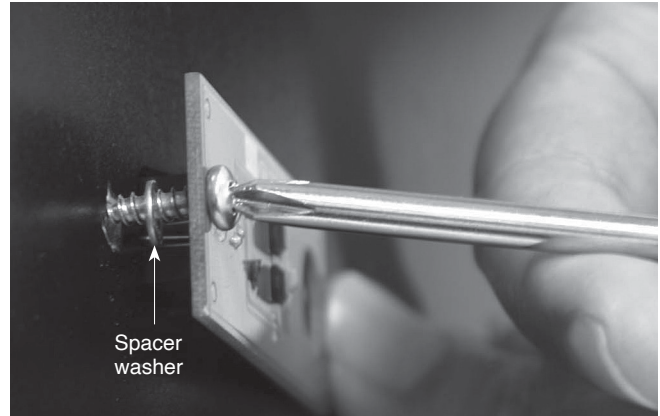
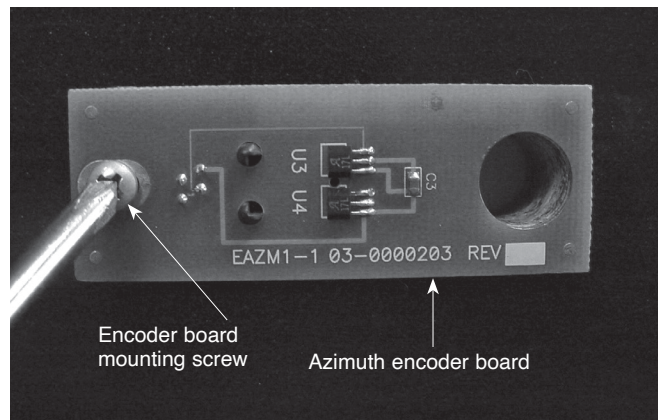

Figure 3a. The spacer washer goes between the azimuth encoder board and the top baseplate of the Dobsonian base.
Figure 3b. Installing the azimuth encoder board. Line up the large hole in the encoder board with the central hole in the top baseplate.
3. Connect the two side panels (C) with the front brace attached to the top baseplate (D) with the remaining six base assembly screws in the predrilled holes. The side of the baseplate with the pilot hole near the square-shaped cutout should be facing downwards. Tighten all six screws firmly.
5. Attach the azimuth encoder board (E) to the underside of the top baseplate (D). Insert the encoder board mounting screw through the circuit board and install the small spacer washer (G) over the screw (**Figure 3a**). Insert the modular jack on the encoder board into the square-shaped hole in the baseplate and align the encoder board so that the small slotted hole in the board lines up with the predrilled starter hole, and the large hole lines up with the central hole in the baseplate. Thread the encoder board mounting screw into the predrilled starter hole with a Phillips screwdriver and tighten until just tight (**Figure 3b**).
6. Place a fender washer (H) onto the azimuth axis screw (I). Then push the screw up through the hole in the ground baseplate (A). Then slide the encoder disk (J), flat side down, onto the azimuth axis screw.